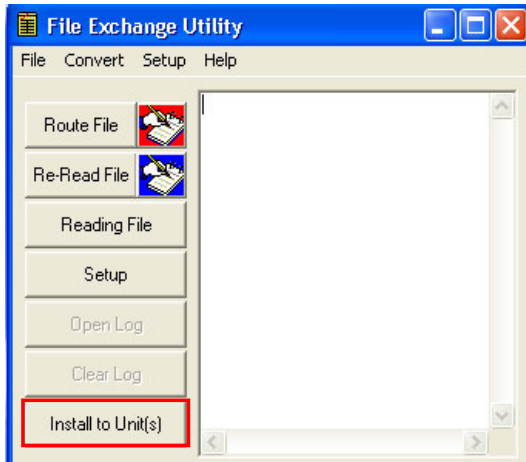

Figure 2-7: File Exchange Main Screen
- Click **Install to Unit(s)** (see figure 2-7).